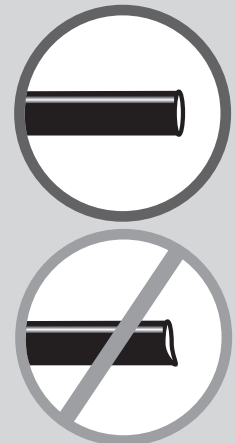

fig. 13
When cutting air lines, use a sharp knife or a hose cutter and make clean, square cuts (Fig. 13). Do not use scissors or wire cutters because these tools may deform the air line, causing it to leak around fittings. Do not cut the lines at an angle.
- a. Check the air line connection by deflating the spring and removing the line by pulling the collar against the fitting and pulling firmly on the air line. Trim 1" off the end of the air line. Be sure the cut is clean and square (see Fig. 13). Reinsert the air line into the push-to-connect fitting.